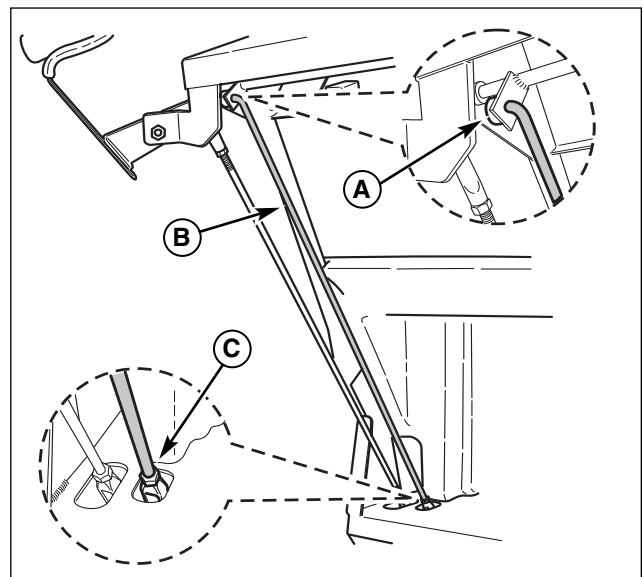

Figure 2. Brake Linkage Rod Adjustment
2. Loosen the jam nut (C, Figure 2) that secures the clevis on the lower end of the linkage rod (B).
3. Remove the set collar (A) that fastens the linkage rod (B) to the operator presence linkage tab.